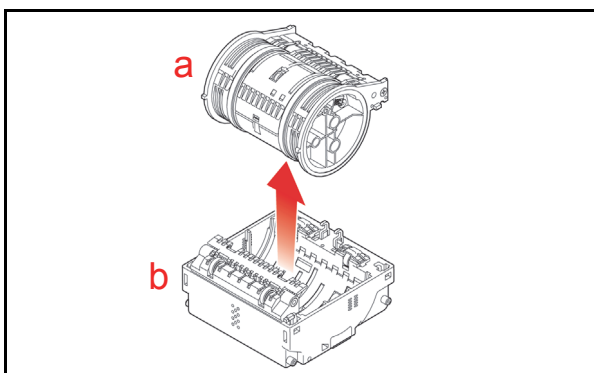

Figure 4-8 Taiko Transport Drum Removal
2. Remove the Transport Drum (See Figure 4-8 a) Unit from the Lower Base Assembly (See Figure 4-8 b).